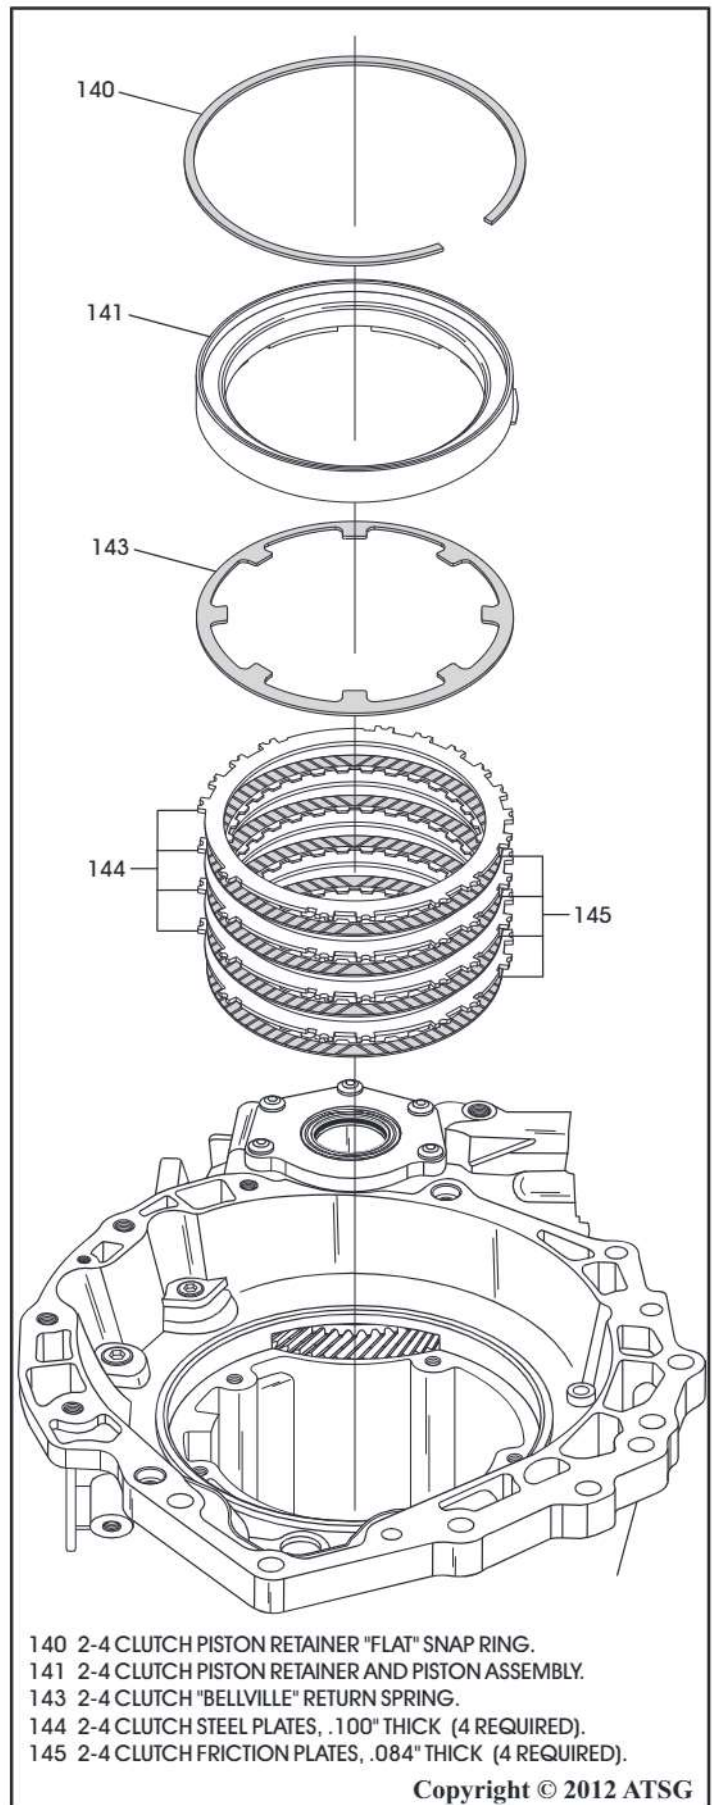

Figure 66
47. Remove the flat snap ring from the case that is retaining the 2-4 clutch retainer, as shown in Figure 66.
48. Remove the 2-4 retainer and piston assembly, as shown in Figure 66.
49. Remove the 2-4 clutch "bellville" return spring, as shown in Figure 66.
50. Remove the 2-4 clutch steel and friction plates, as shown in Figure 66.